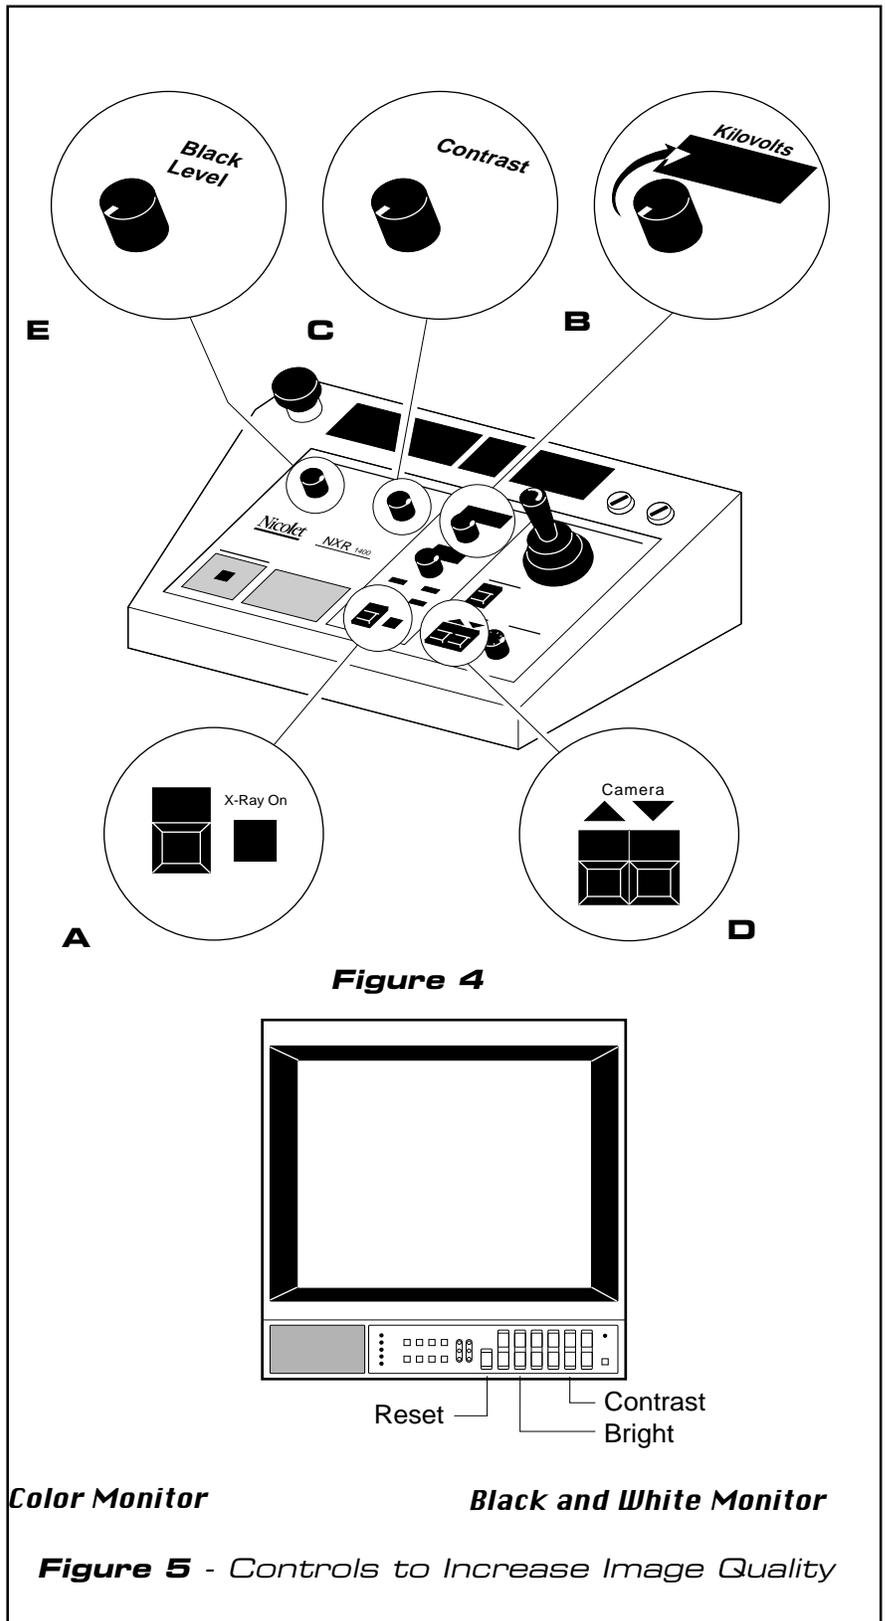

Figure 4
2. Press the **X-ray On** button (Figure 4-A). The system beeps and the **X-ray On** LED and **Warning** light come on.
3. Increase the voltage by slowly turning the **Kilovolts** control (Figure 4-B) to the right. This increases the kilovolts readout value (Figure 4-B) and brightens the monitor.
4. Turn the **Contrast** (Figure 4-C) and **Kilovolts** (Figure 4-B) controls until the displayed image is clear and distinguishable. You may need to use the **Camera** buttons (Figure 4-D) to adjust the camera position. If you still cannot achieve a quality image, adjust the **Bright** and **Contrast** controls on the monitor (Figure 5). Pressing **Reset** on the color monitor returns the monitor's front panel adjustments to mid range. If no picture appears, try adjusting the **Black Level** control (Figure 4-E).